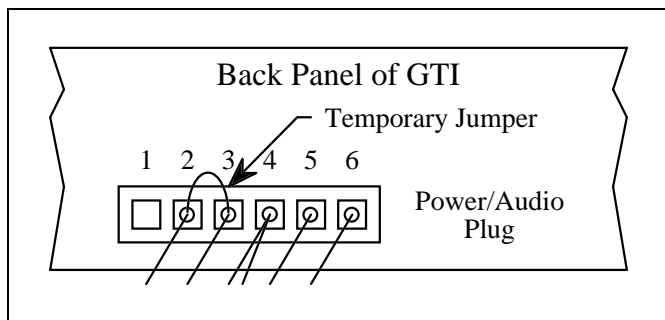

Figure 45 - Position of Temporary Jumper
3. Add a jumper between pins 2 and 3 of the Power/Audio plug on the back panel of the GTI (see Figure 45).
- (MASTR II & IIe applications only) - Add a jumper between pins 2 and 3 of the Power/Audio plug on the back panel of the GTI (see Figure 45).
- (MASTR II & Iie applications only) - Remove the jumper between pins 2 and 3 of the Power/Audio plug on the back panel of the GTI (see Figure 45).
- (MASTR II & Iie applications only) - Add a jumper between pins 2 and 3 of the Power/Audio plug on the back panel of the GTI (see Figure 45).